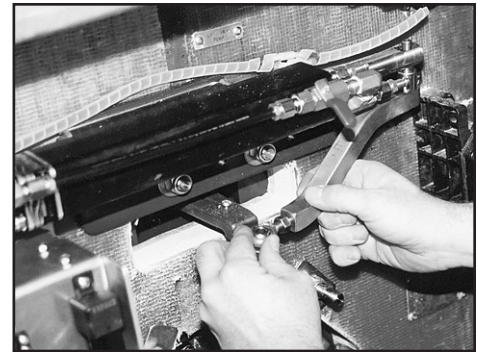

FIGURE 14C
- 14.3 With the steering cylinder ram and tiller arm in the center position, adjust the drag link to the correct length and attach it between the cylinder and the tiller arm with the hardware provided (see Figure 14C).